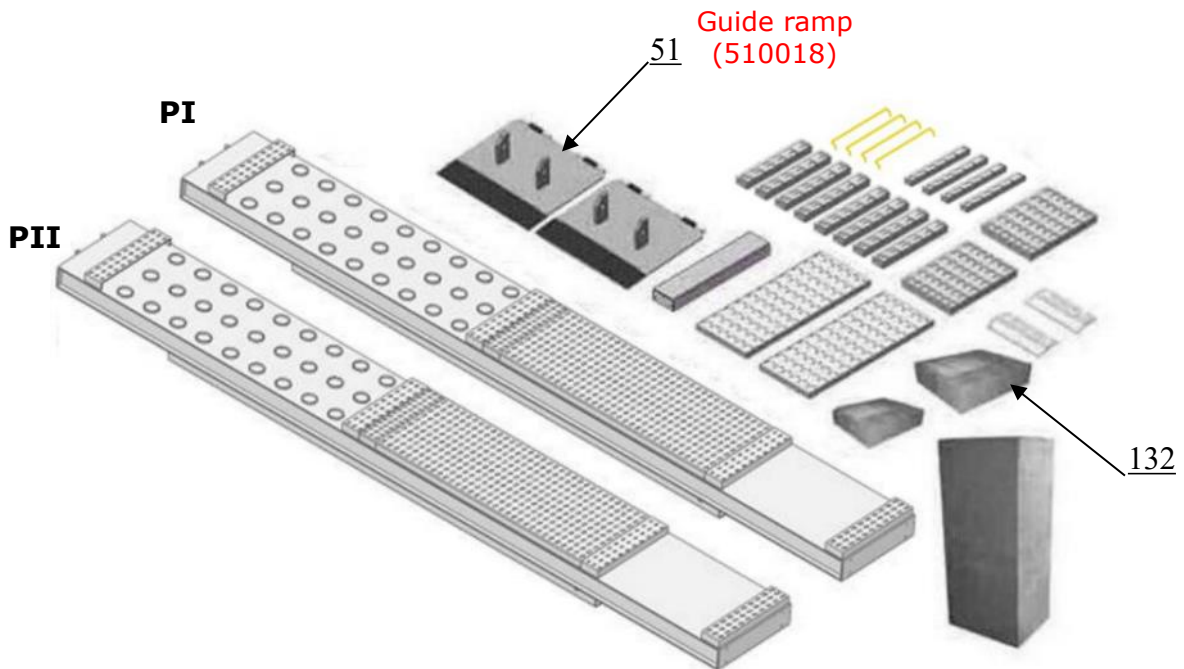

Fig. 9
2.2 Parts for lift of flush mount installation (See Fig.9)